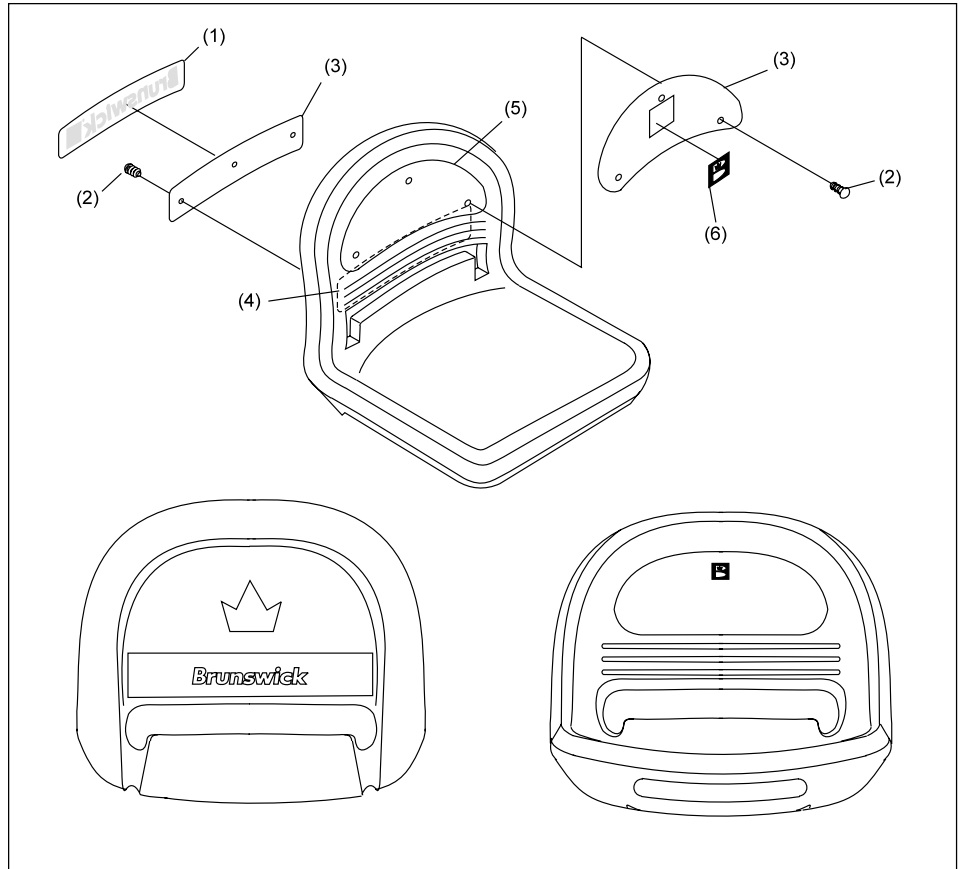

Figure 6. Secure Inserts and Decals
1. Align the holes in the oval shaped seat insert with the holes in the recessed area on the front side of the seat back. Secure the insert to the seat with three push-in plastic fasteners. Refer to *Figure 6*.
2. Align the rectangular insert with recessed area on the back side of the seat back. Secure it to the seat bucket with push-in plastic fasteners. Refer to *Figure 6*.
3. Remove the backing from the Brunswick "B" decal. Align the decal with the recessed area in the oval shaped insert and press it into place. Refer to *Figure 6*.
4. Remove the backing from the rectangular Brunswick decal. Align the decal with the recessed area on the rectangular insert and press it into place. Refer to *Figure 6*.